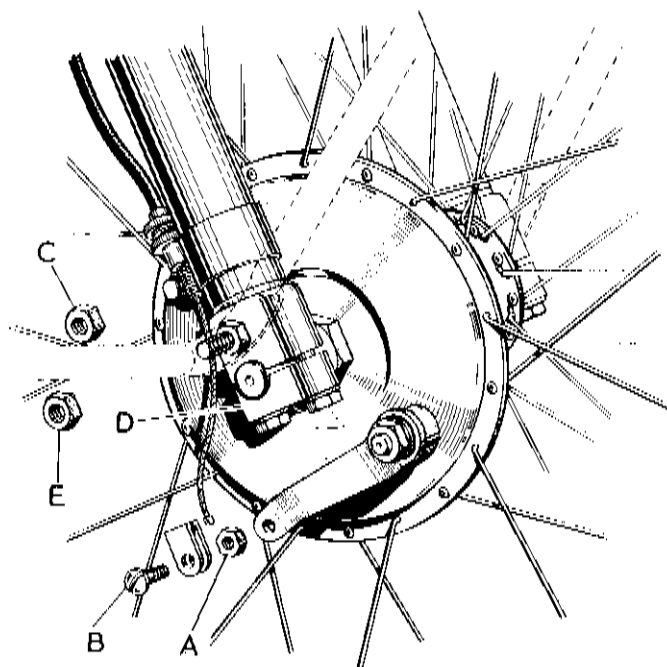

Fig. D29. Front Wheel Removal.
Disconnect the brake cable by removing the nut (A) and the screw (B) Fig. D29 at the brake drum end. Slacken the torque arm nut (C) on the cover plate and remove the end caps (D) by unscrewing the four bolts (two in each cap) and as the last bolt is removed support the wheel to avoid damage to the screw threads on the bolt or the screwed sockets. The wheel will now be free.
If the front forks or steering head is to be dismantled, it will be necessary to remove the front mudguard. This is done by taking out the two bolts and nuts on the bridge piece midway up the fork legs, and then the two nuts (E) Fig. D29 on each side of the fork ends holding the stays. Spring the stays over the studs and drop the guard down out of the forks.